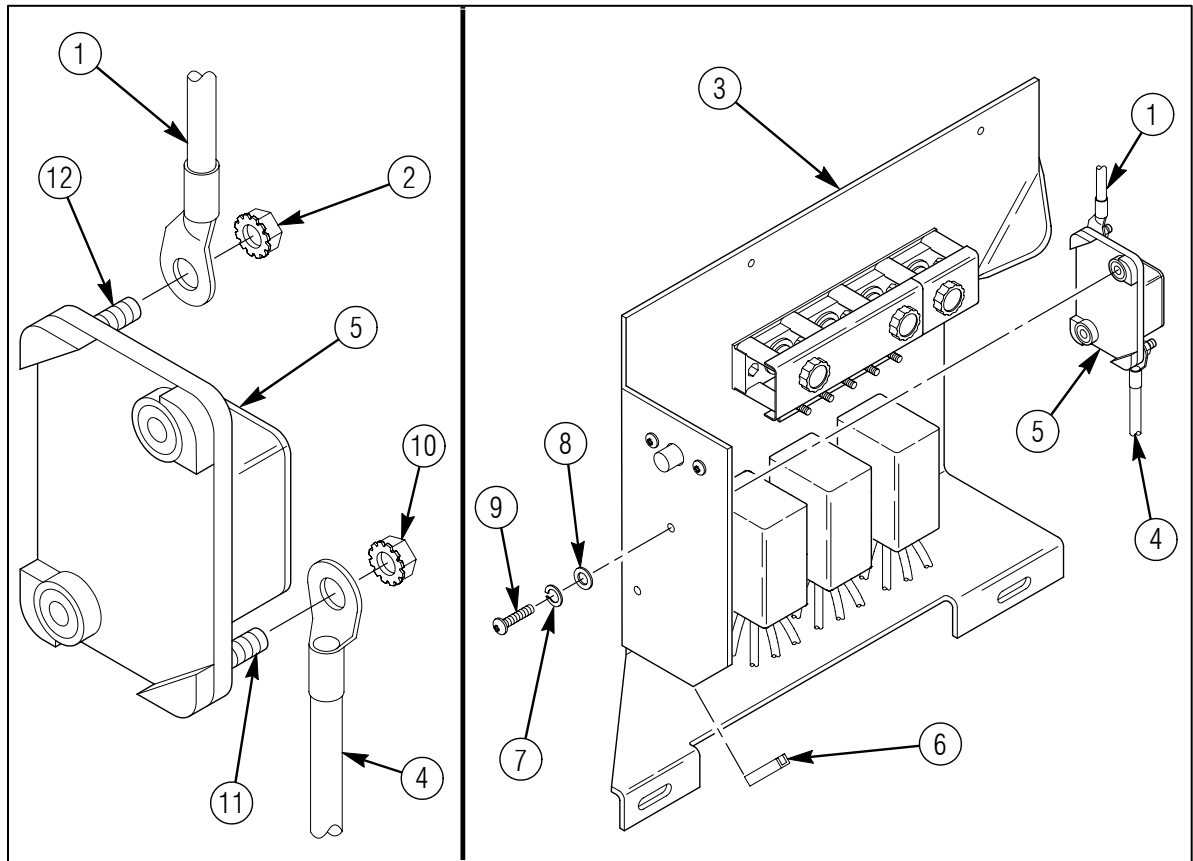

Figure 35
1. Remove nut (2) from 6432525-01M1 fuse (5) and connect 6432541-01M1 cable assembly (1) to BAT terminal (12). Install nut (2) and tighten to 10 lb-ft (14 N·m). Refer to figure 35.
2. Remove nut (10) from 6432525-01M1 fuse (5) and connect POSITIVE (red) lead (4) of 6432538-01M1 wire harness (4) to AUX terminal (11). Install nut (10) and tighten to 10 lb-ft (14 N·m). Refer to figure 35.
3. Install 1-3/4 inch long piece of 1000049-003 edge trim (6) on cut edge of B-beam panel (3) as shown in figure 35.
4. Install 6432525-01M1 fuse (5), with cable assembly (1) and wire harness (4) attached, inside B-beam panel (3) and secure with two 4397013-074 screws (9), 4397004-005 lockwashers (7), and 4397005-008 washers (8) as shown in figure 35. Tighten screws (9) to 68 lb-in (8 N·m).